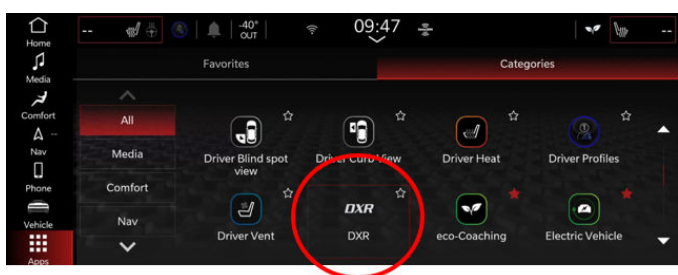

Fig. 12
25. Locate the DXR tile and select it Fig. 12.